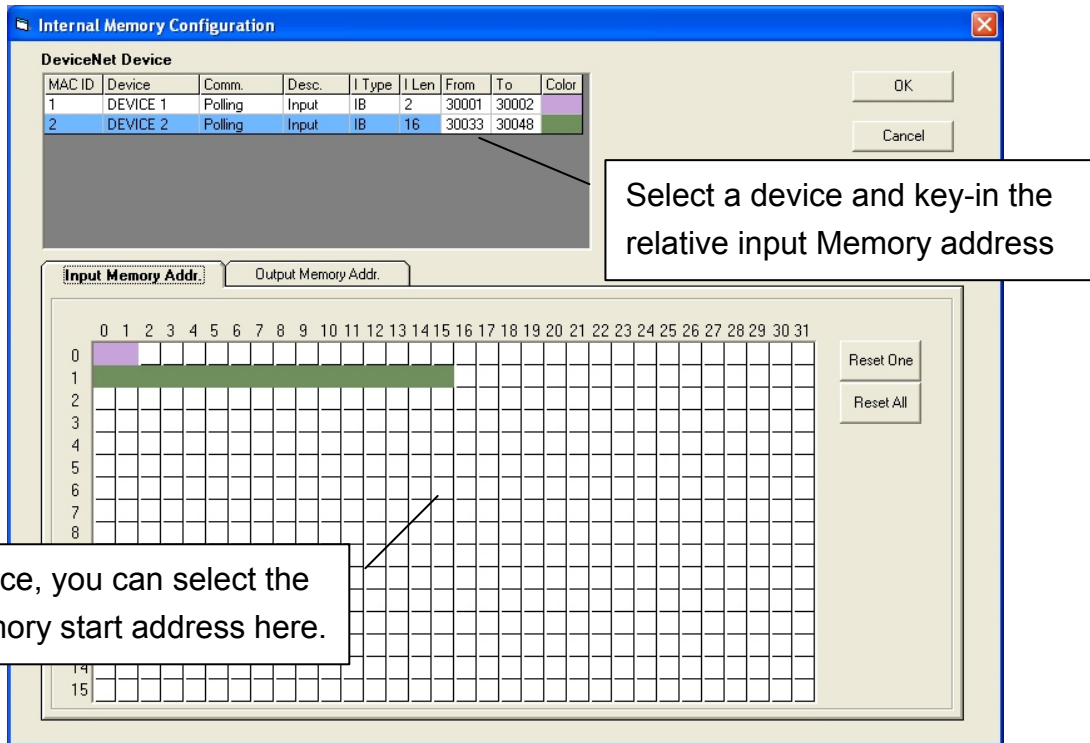
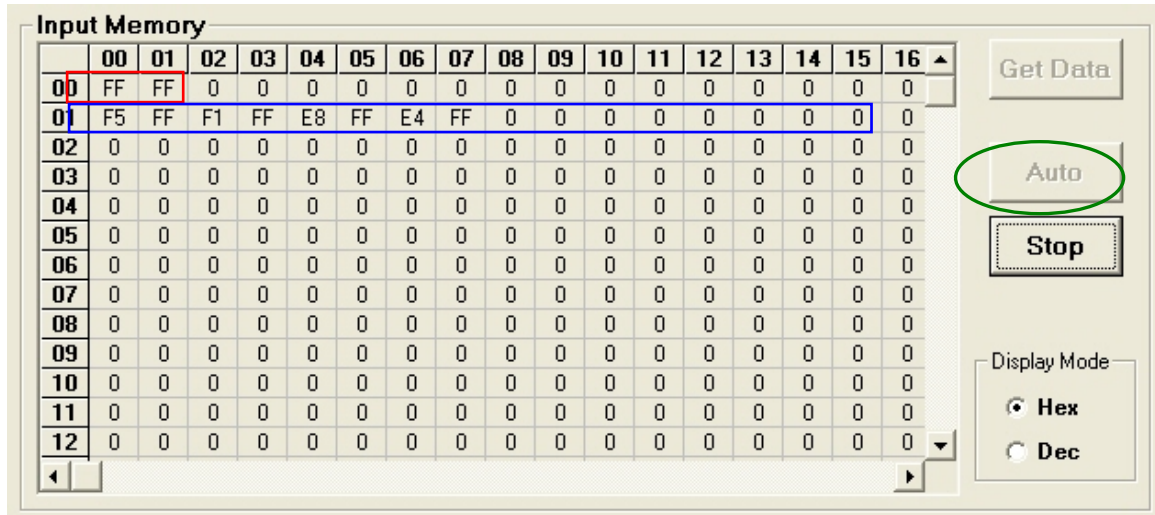

Figure 5-30: Input Memory Address
Figure 5-33: Input Memory Table
- Then users can configure the DeviceNet input devices into Input memory address or the DeviceNet output devices into output memory address. As shown in figure 5-30, 5-31.
As the setting of figure 5-30 and 5-31, users can get the Device1, 2 bytes polling input data, and Device2, 16 bytes polling data, on the Input Memory Table, 0000~0001 and 0100~0115 after click the “Get Data” button or “Auto button”. As shown in figure 5-33.